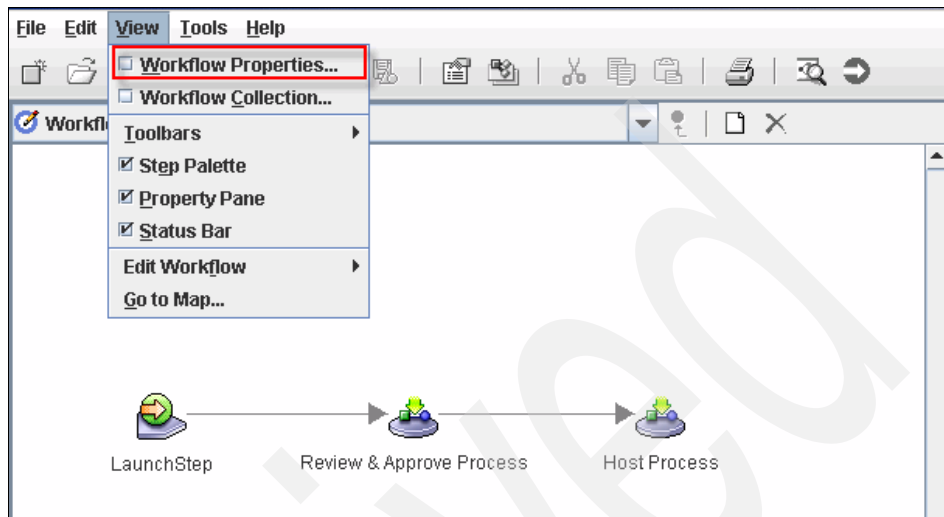

Figure 7-42 Selecting to view the Workflow Properties
5. In the Contract Management Workflow (Figure 7-42), from the menu bar, select **View** → **Workflow properties** to see the settings in the workflow.